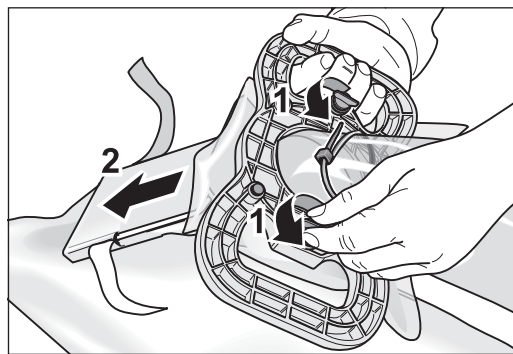

Fig. 30 Open the quick-release fasteners (1) and remove the dust bag (2).
- 15 Keep the dust bag tilted at a slight angle for the residual dust to fall back into the dust bag and open the two quick-release fasteners on the emptying fixture (fig. 30, 1).
- 16 Remove the emptying fixture from the dust bag (fig. 30, 2).